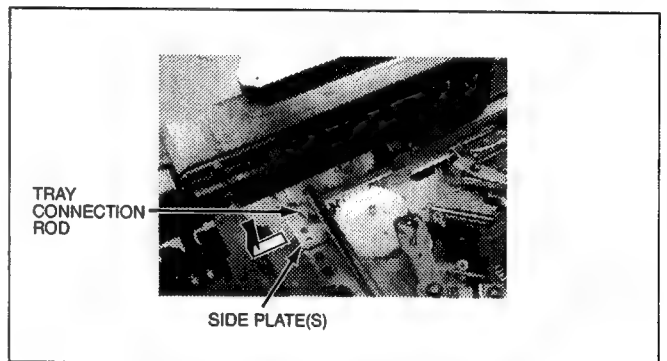

Fig. T-4
- Fig. T-4 Since the Side Plate (S) is located underneath the Tray Connection Rod, then shift the Side Plate (S) in the front direction and lift it up.